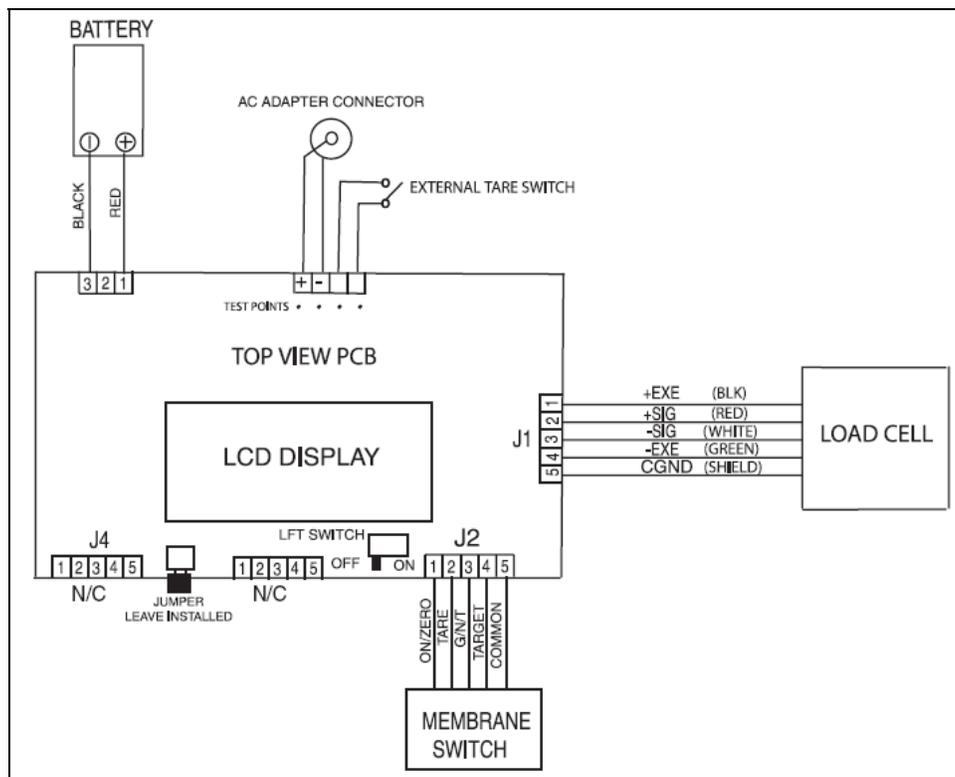

Figure 2-2. Main Printed Circuit Board Connections
1. Using an Ohmmeter, measure the resistance between pin 5 and each other pin on the Membrane Switch Cable. (See Figure 2-2, next page.) The readings should be infinite resistance.
*See Figure 2-2.
NOTE: The following steps involve power applied to the scale. Load Cell solder contacts can be used as measuring points. (See Figure 2-2.)
- Using a voltmeter, measure and record the excitation voltage supplied to the PCB: with no load on the Platform, measure the voltage across points 1 and 4 of the Load Cell connection on the PCB: +EXE and -EXE. (See Figure 2-2.) This voltage must be approximately 5.0 Volts dc with the Load cell connected. If the voltage is lower, disconnect the Load Cell cable from the PCB and measure again. If the voltage is 5 Volts dc, the Load Cell is defective and must be replaced. If the voltage remains low, the PCB is defective and must be replaced.
- Measure the voltages on +SIG and -SIG wires, disconnected from the PCB (points 2 and 3 in Figure 2-2). These measurements represent the output of the Load Cell. Record measurements at Zero Load, 50% and full scale capacities. See Table 2-3 for typical readings.
4. Using a DVM, measure the excitation voltage across pins 1 and 4 of J1. (See Figure 2-2.) The reading should be 5 volts dc. This is the excitation voltage for the Load Cell and is regulated. If the voltage is lower, replace the PCB. (See Section 3.4.) Then perform Operational Tests. (See Chapter 4.)
5. Measure incoming power from the AC Adapter connector shown in Figure 2-2. The voltage should read between 9 and 14 volts dc with power off and above 9 Volts dc with power on.
6. With the battery disconnected from the PCB, measure voltage across pins 1 and 3 on the battery connector on the PCB. (See Figure 2-2.) The voltage should read 1 to 3 Volts dc.
2. Disconnect the Load Cell cable from connector J1 on the main PC Board. (See Figure 2-2.)